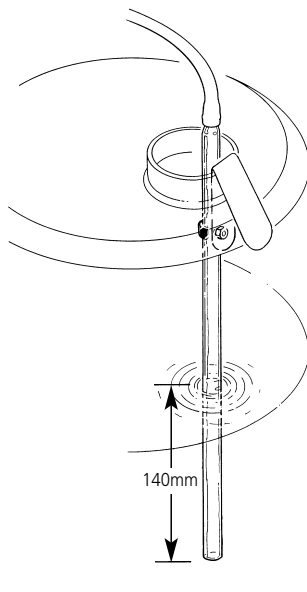

Fig 11
Reservoir Control (fig. 11)
Lower the glass pressure bell WFB, fig. 11, into the distillate to a depth of 150mm. This will switch off the heating element immediately and the cooling water after 7 minutes. Raising the bell will cause both to be re-supplied.
Each Aquatron water still is supplied with a RESERVOIR LEVEL CONTROL, WLS, fig. 11. This automatically switches off the heating elements and coolant water supply when the distillate collection reservoir is filled with distilled water.
- 2 Take the Reservoir Level Control WLS and connect the free end of the rubber tubing to the nozzle, item 13, of the reservoir pressure switch located on the side of the cabinet.
- 3 Use the metal clip to fit the glass pressure bell inside the distillate collection reservoir. Refer to fig. 11.